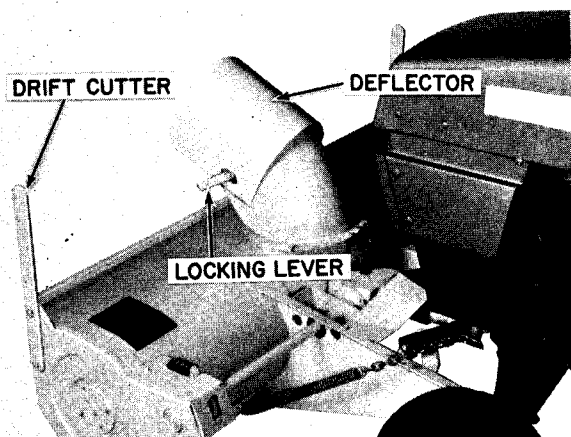

FIGURE 14
1. The deflector, Figure 14, has a slotted hole on each side for adjustment. To change the angle of the deflector, loosen the two locking levers. Tighten the locking levers when the deflector is adjusted at the desired angle.
Grease discharge chute base shown in Figure 14 after each use.